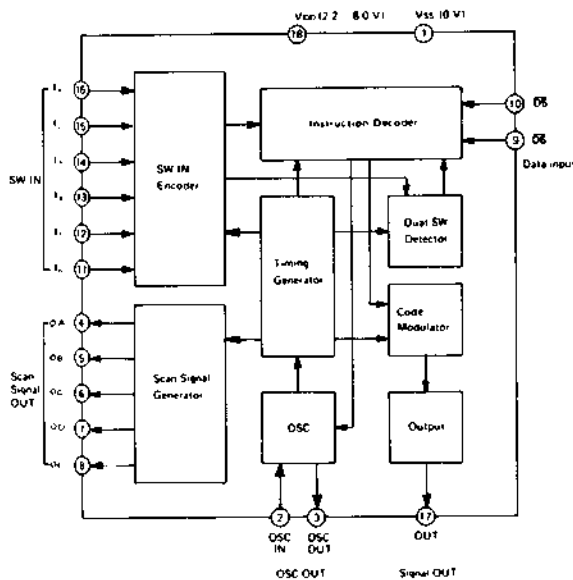

Fig. MC-2 Parallel/Seriell Kodierer
Fig. MC-2 zeigt das Blockschaltbild.
3. M50115 AP (Fig. MC-2)
The block diagram of this is shown in Fig. MC-2.
3. M50115AP (Fig. MC-2)